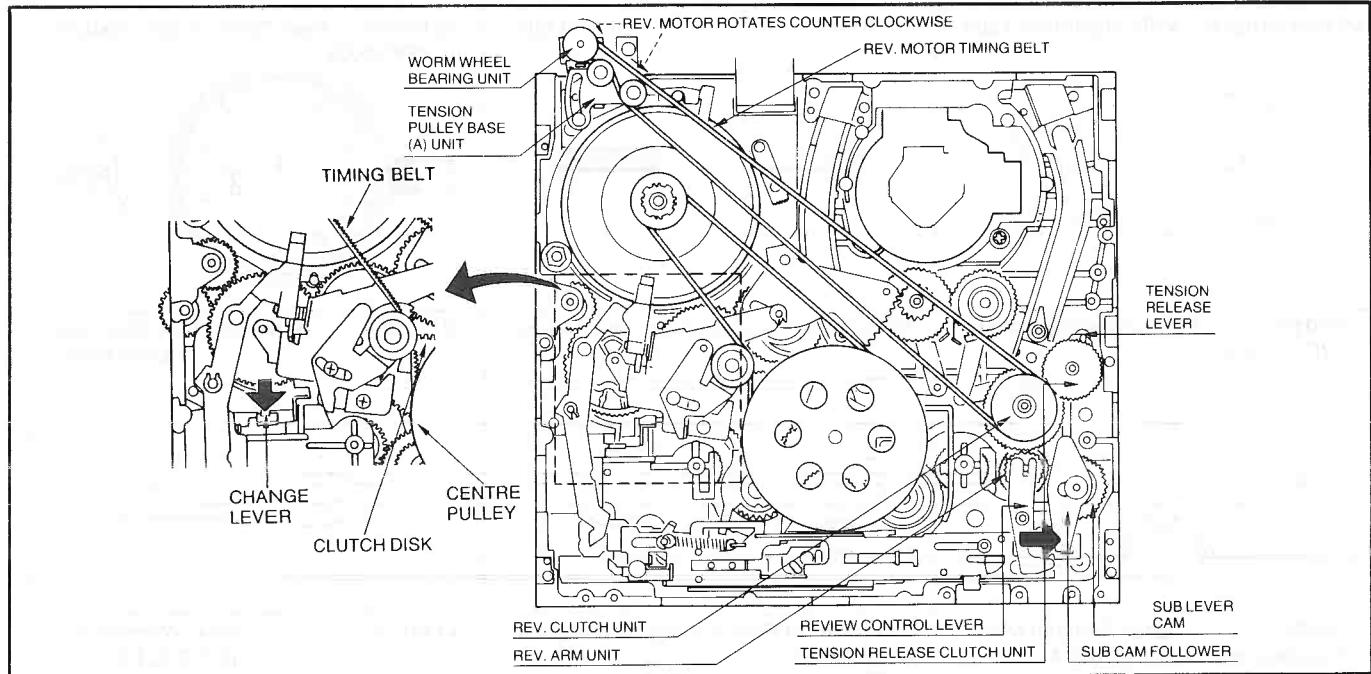

Figure M1
3. Release the change lever by pushing it to arrow mark direction as shown in Figure M1.